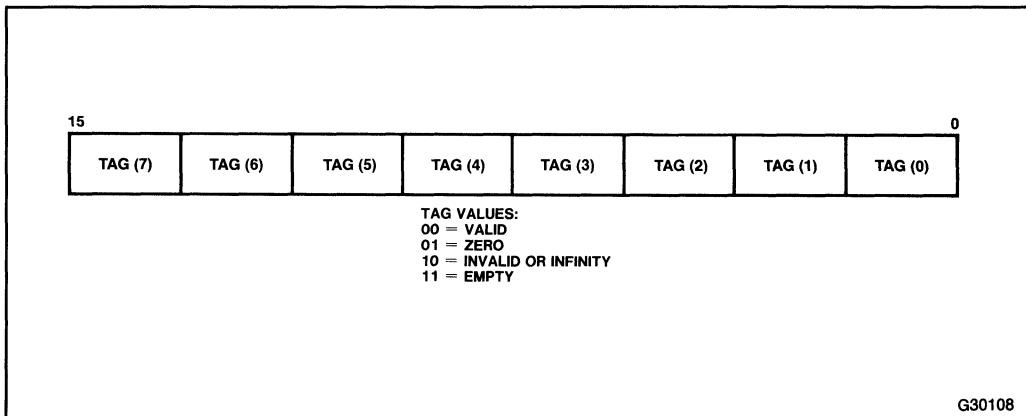

Figure 1-6. 80287 Tag Word Format
The tag word indicates the contents of each register in the register stack, as shown in figure 1-6. The tag word is used by the NPX itself in order to track its numeric registers and optimize performance. Programmers may use this tag information to interpret the contents of the numeric registers. The tag values are stored in the tag word corresponding to the physical registers 0–7. Programmers must use the current Stack Top (ST) pointer stored in the NPX status word to associate these tag values with the relative stack registers ST(0) through ST(7).